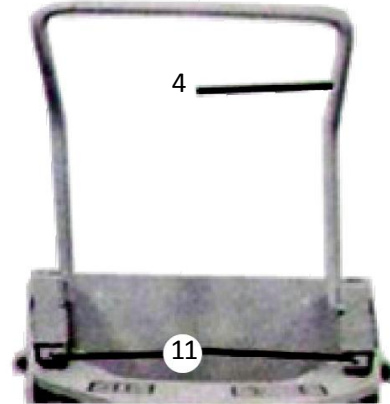

Fig. 4
(4) Install the grab bar (Item 4) in the grab bar mounting receptacle located on the inside of the side plates and just above the top plate. Secure the grab bar with two (2) 3/16" x 1 1/2" cotter pins (Item 11) as shown in Fig. 4.